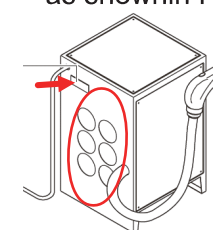

Fig.1
- Outage: Close the main switch Fig.1 to disconnect the grid-power.
- ventilation: Blow the ventilation grid to clean, as shown in Fig.1&2 below.